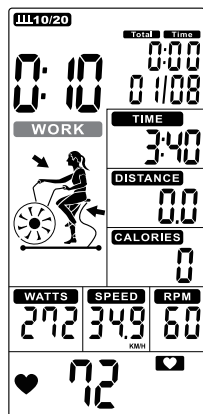

Fig. 6
*The values for TOTAL TIME, TIME, DISTANCE, CALORIES are counted up. Also the values for WATTS, SPEED, RPM and PULSE are shown (Fig. 6–8).*
*During the WORK sequence WORK flashes once per second. After the WORK sequence the REST sequence starts. The display shows REST and REST flashes and a signal sounds once per second (Fig. 6 & 7).*